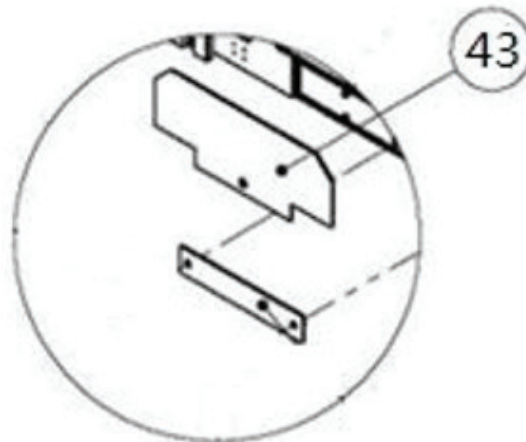

Fig. 12
29. Insert Wheel Stop Plates (Item # 43) at each end of Runways, as shown below Fig 12.